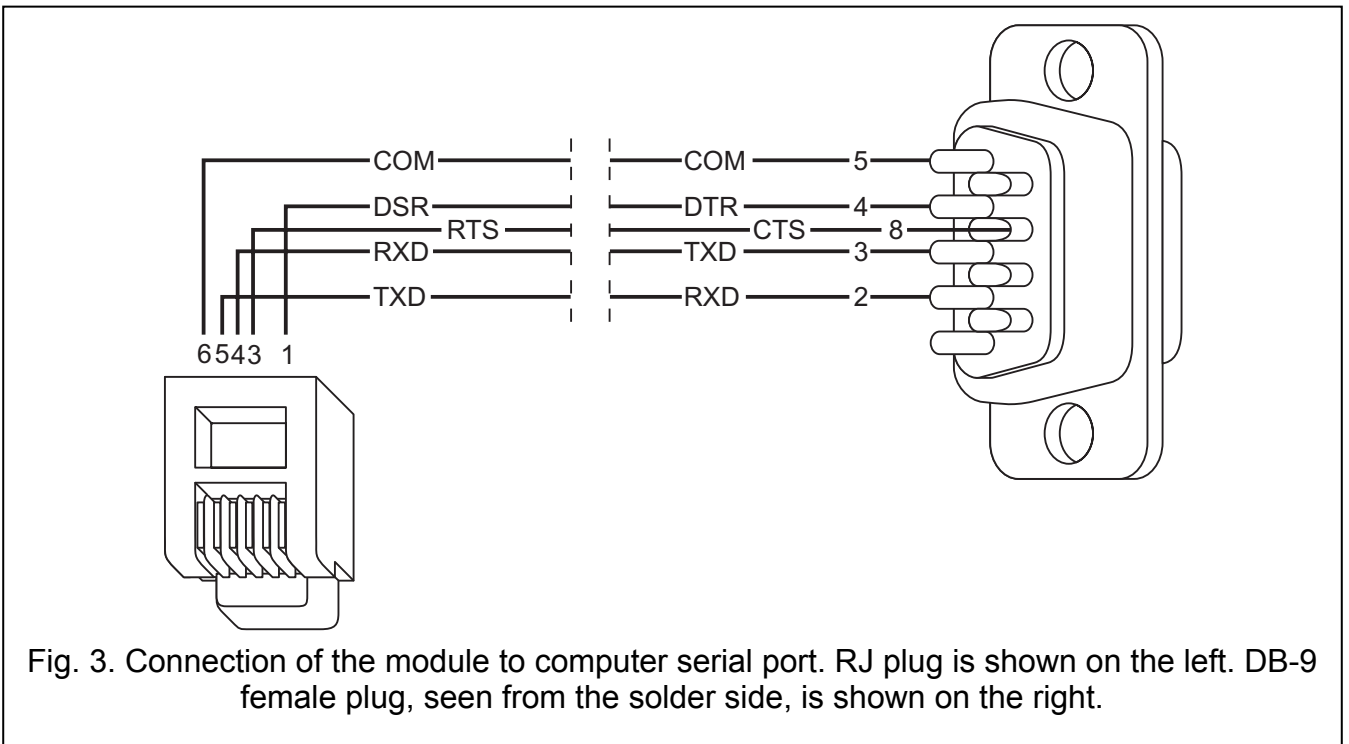

Fig. 3. Connection of the module to computer serial port. RJ plug is shown on the left. DB-9 female plug, seen from the solder side, is shown on the right.
1. Connect the module RS-232 port (RJ type socket) to the computer COM serial port. The method of connection is shown in Figure 3 (you can buy a ready-made cable, manufactured by SATEL).